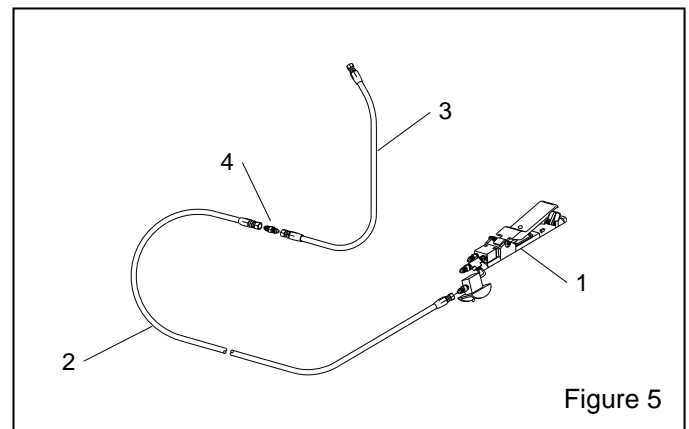

Figure 5
7.3 ACS Systems Replacement parts, Figure 5